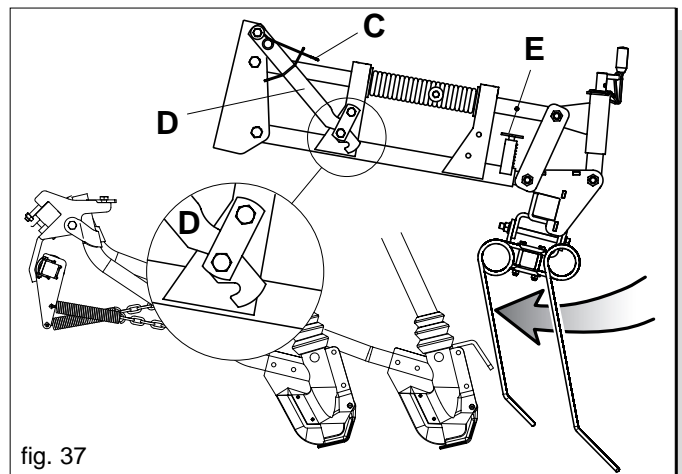

fig. 37
For road transport, the teeth of the seed covering harrow must be turned downwards (Fig. 37).
- 1) Position the spring (C) as shown in Figure 37.
- 2) Lift the seed-covering harrow so as to hook the lever (D Fig. 37).
- 3) Lift the pin (E Fig. 37) and slide the harrow to the next automatic hook of the pin (E Fig. 37).